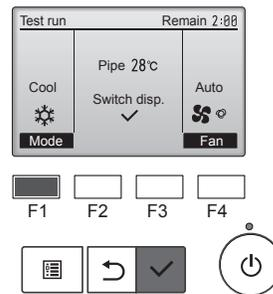

Fig. 6-5
- ① Press the button to go through the operation modes in the order of "Cool" and "Heat". (Fig. 6-5)